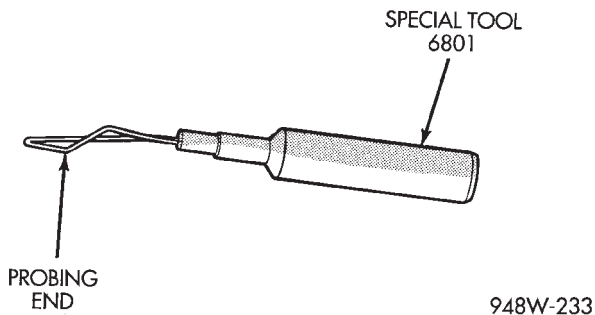

Fig. 6 Probing Tool
- Probing Tools - These tools are used for probing terminals in connectors (Fig. 6). Select the proper size tool from Special Tool Package 6807, and insert it into the terminal being tested. Use the other end of the tool to insert the meter probe.